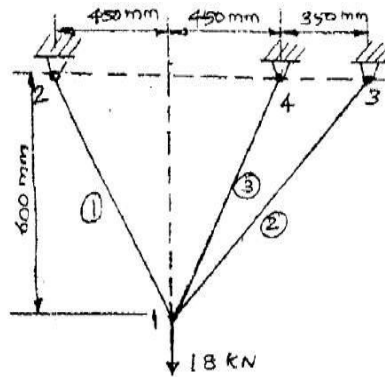

Figure. 2
2. a) For the three-bar truss shown in Figure. 2, determine the displacements in node 1 and the stress in element 3. Take $A=250 \text{ mm}^2$, $E=200 \text{ GPa}$. (8M)